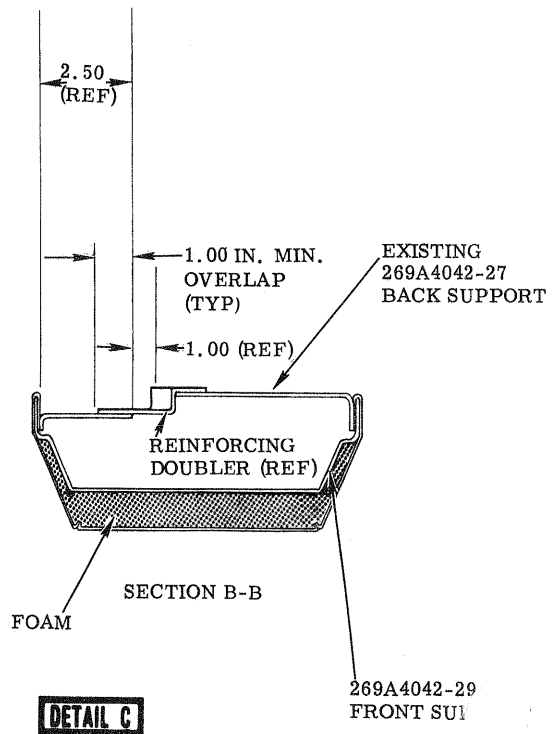

FIGURE 1. MODIFICATION OF CENTER BACK CUSHION ASSEMBLY, P/N 269A4042
- b. Modify existing -27 back support on center back cushion by cutting out area, per dimensions shown in Figure 1.